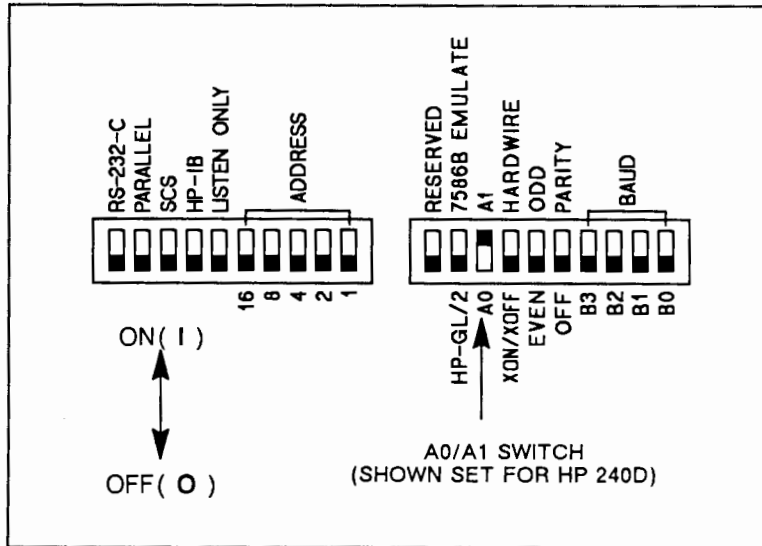

Figure 2-12. Setting the A0/A1 Switch
- l. Set the A0/A1 Switch to the A1 position for the HP 240D plotter or to the A0 position for the HP 240E plotter. See Figure 2-12.